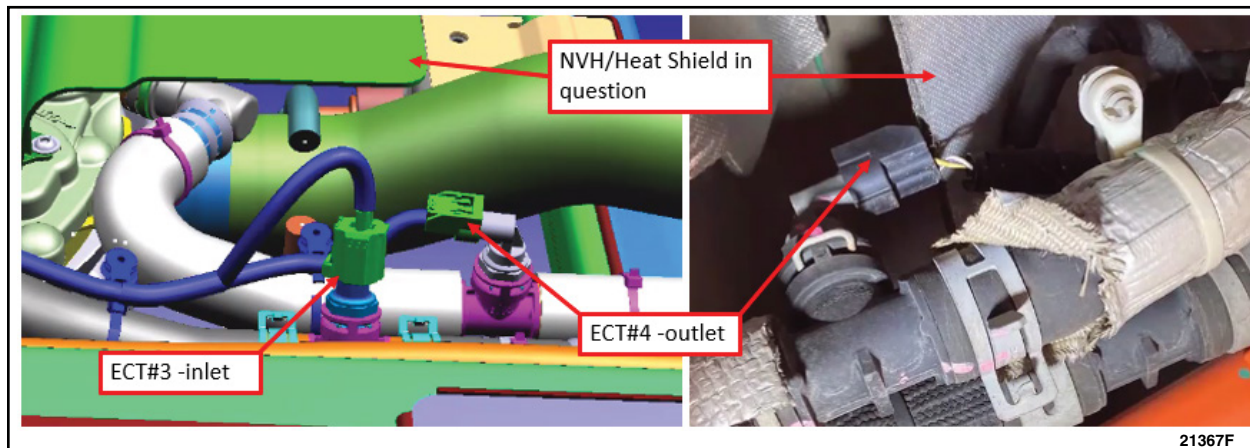

FIGURE 4
8. Inspect the front Engine Coolant Temperature (ECT) sensor connectors for any damage caused by the passenger side insulator. Is there any damage? See Figure 4.